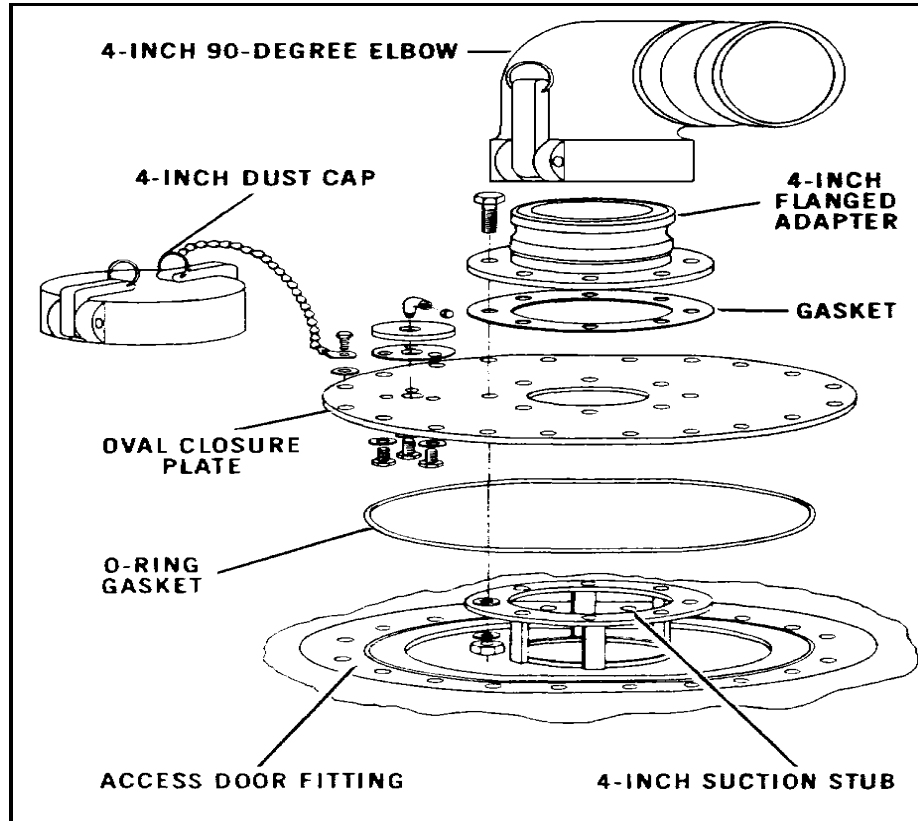

Figure 22-16. Filler/discharge assembly (same on 3,000-, 10,000-, 20,000-, and 30,000-gallon collapsible tanks)
The filler/discharge assembly as shown in Figure 22-16, page 22-17, is located on top of the tank. It consists of an access door fitting, a 4-inch suction stub, an oval closure plate, a 4-inch flanged adapter coupled to a 4-inch elbow fitting, and a 4-inch dust cap.
- Filler/discharge assemblies.** The filler/discharge assemblies as shown in Figure 22-16, page 22-17 , are on top of the tank. They are similar to that of the 3,000-gallon collapsible tank.
- Filler/discharge assemblies . The two filler/discharge assemblies as shown in Figure 22-16, page 22-17 , are located on top of the tank. One is located at each end so that the tank can receive and discharge fuel from both ends.